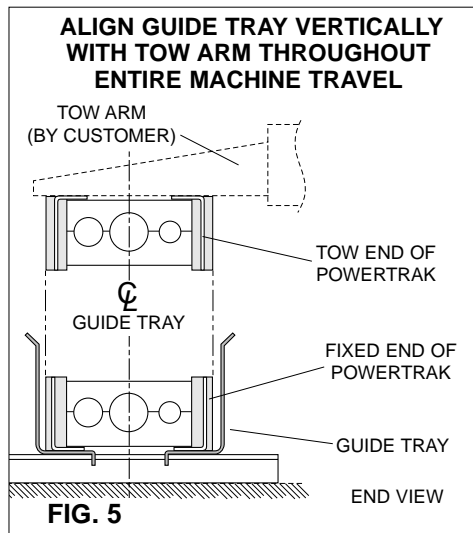

FIG. 5
STEP 6: Adjust guide tray so it is parallel to machine travel and so tow arm (tow end mounting point of PowerTrak) is plumb with tray centerline throughout entire machine travel (Figs 5 & 6). Reposition tray as needed.